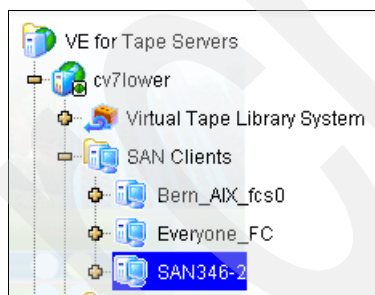

Figure 6-58 Add SAN clients: verify successful client creation
- Verify the successful creation of SAN346-2 as shown in Figure 6-58.